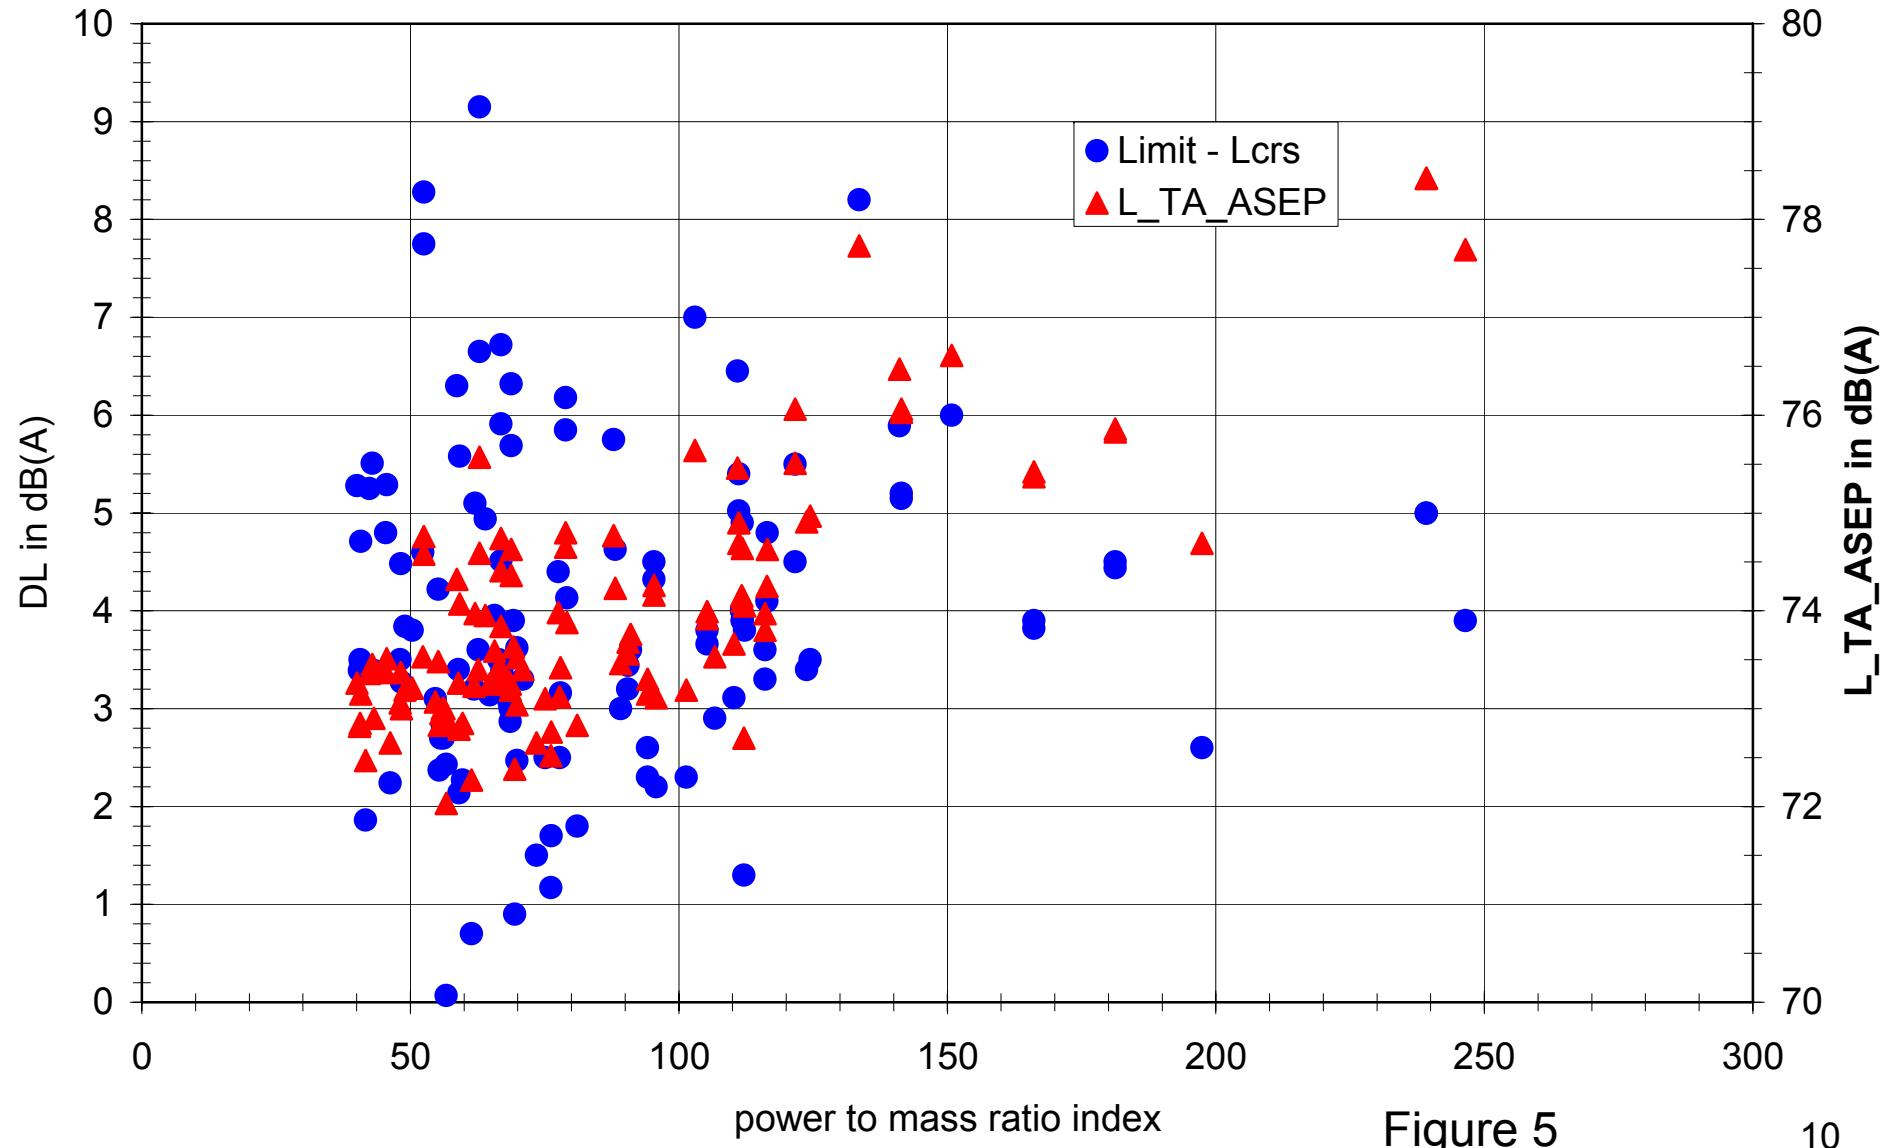

Figure 5
- The Limit - L_{crs} values of the ASEP database are shown in figure 5.